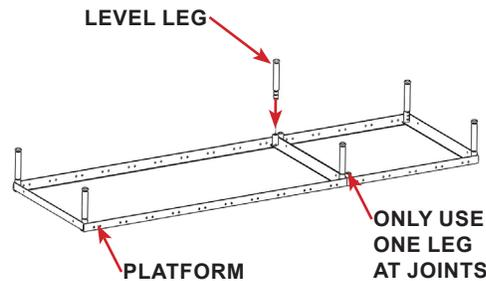

FIGURE 2.7 - Cage Bank Platform
STEP 3: For cage bank platforms (attached in series), insert a leg into each of the four end corners. See FIGURE 2.7
STEP 4: Insert one leg in the front and back where the platforms are joined together. There are two sockets where the platforms join, only one leg at the front and back is required at the platform joints. See FIGURE 2.7